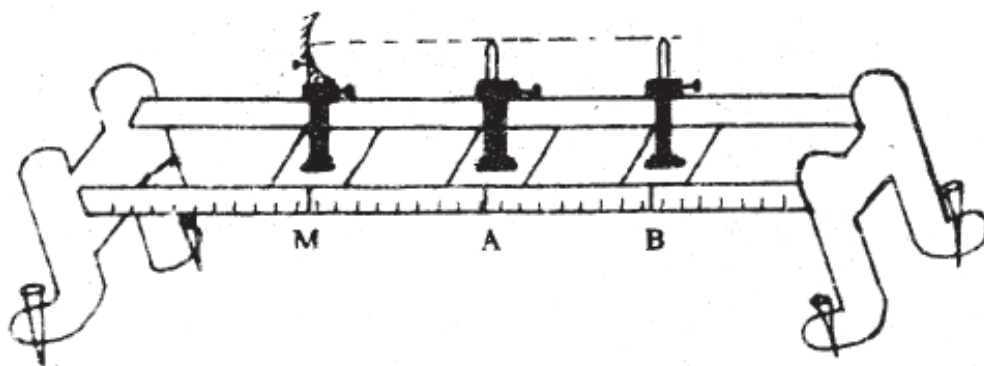

Fig. 13.1 Experimental set-up
- (iv) Fix the mirror in mirror-holder and *adjust the tips of the pins so that they are in the same horizontal line as the pole of the mirror* (See Fig. 13.1).